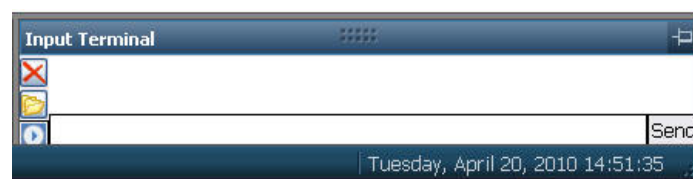

Figure 60: Input Terminal
1. Locate the *Input Terminal* at the bottom right of StarUtil 3000 (see Figure 60).